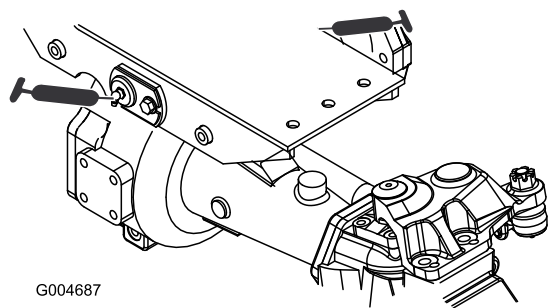

Figure 36
- 2 front and rear-axle-pivot bushings (Figure 36)